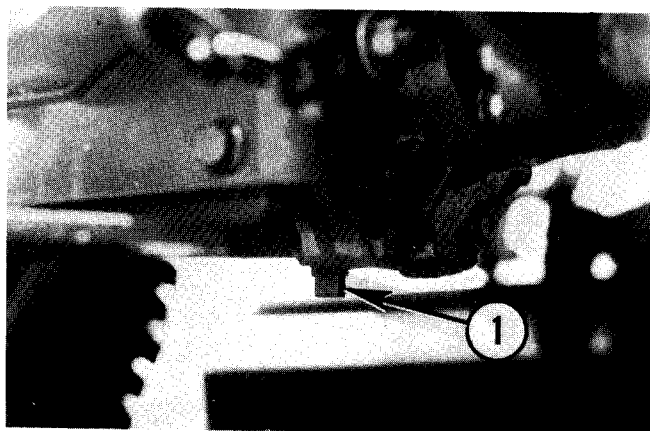

Fig. 21 — Transmission Lubrication
1. Operate Tractor until oil is warm, remove drain plug, No. 1, Fig. 21, and drain oil.